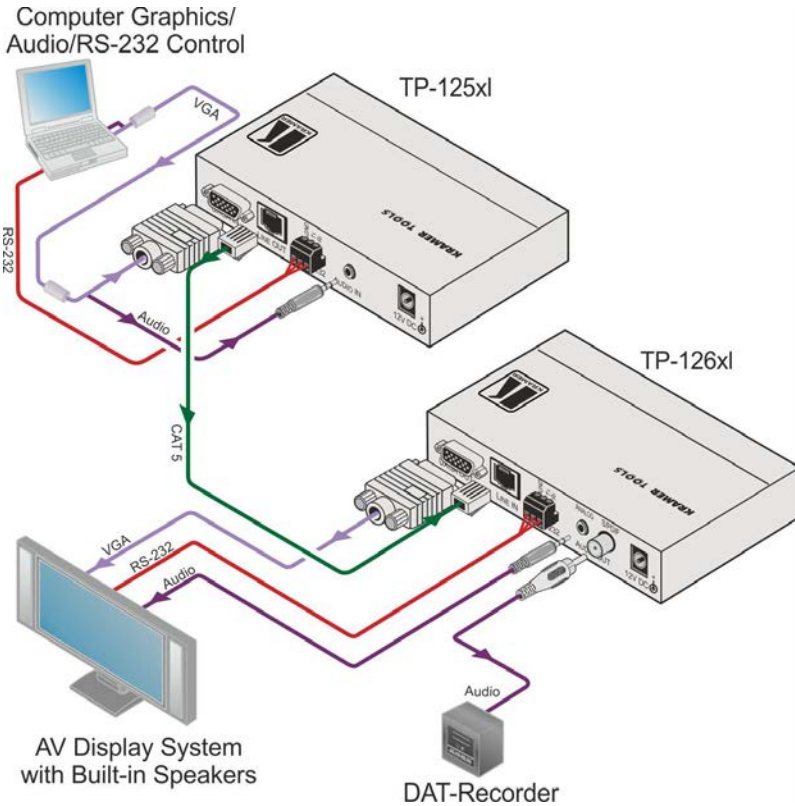

Figure 5: Connecting the TP-125xl Transmitter and TP-126xl Receiver
To connect the TP-125xl and the TP-126xl as illustrated in Figure 5:
- The computer graphics video source, (for example, the graphics output from a laptop) to the UXGA In 15-pin HD connector (F)
- The UXGA Out 15-pin HD (F) connector to the video acceptor, (for example, an AV display system)
4. Connect the power adapters to the power sockets on the **TP-125xI** and **TP-126xI**, and connect the adapters to the mains electricity (not shown in Figure 5).